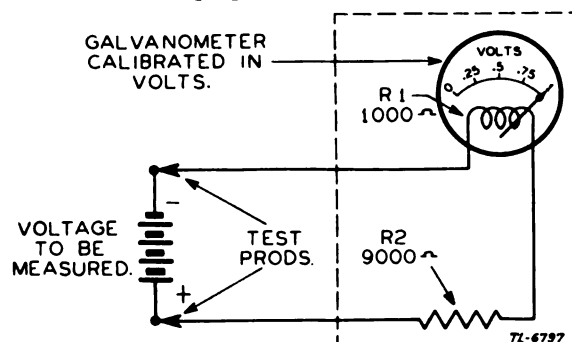

Figure 2. The galvanometer as a voltmeter.
(1) The commonly used milliammeters are most accurate at the top (maximum) portion of the scales. For greatest accuracy, take current readings at the top of the scale by using the lowest available meter range for any given measurement. However to avoid damage to the meter always start by using the highest range and work down to the lowest usable range; that is, the range which will place the needle indication on the upper portion of the calibrated scale.
(2) Since a d-c meter will measure current flowing in only one direction, it is important to observe polarity when connecting the meter in a circuit. Current flowing through the meter in the wrong direction will damage the meter movement.
a. General. (1) The voltage across a battery can be measured by a galvanometer arranged as a voltmeter (fig. 2). Voltmeters are used for measuring the electric pressure, or voltage, between two points in an electric circuit. While an ammeter is connected in series with the circuit in which current is being measured, a voltmeter is connected in parallel with (directly across) the voltage source. Because of its comparatively low resistance, the moving coil of the voltmeter cannot be connected directly across the voltage source, as it would ordinarily take an excessive current and be burnt out. Therefore, it is necessary to connect a high resistance in series with the coil.
(2) The galvanometer can then be connected across the voltage source in series with this resistance and used to measure voltage. By Ohm's law the current flowing through the meter is proportional to the voltage at its terminals. As explained previously, this current flows through the moving coil and develops a turning force proportional to the current intensity. Therefore, the voltage across the terminals of the voltmeter develops a turning force which moves the pointer attached to the moving coil across a scale calibrated in volts.
b. Multipliers. (1) Because of the low resistance of most meters only a very low voltage is required to cause full-scale deflection. The range of a voltmeter may be increased, however, by the use of additional resistances connected in series with the meter. These additional resistances are called multipliers. When the resistance of the meter circuit is increased by placing a resistor in series with it, the voltage necessary to cause full-scale deflection is increased proportionately.
(2) If a resistor equal in value to the meter resistance is placed in series with the meter across a battery, half as much current will flow, or twice the voltage will be required for full-scale deflection of the meter. If the meter is calibrated in units of current, and the values of the meter resistance R_1 and the multiplier resistance R_2 are known, the voltage across the battery may be calculated using Ohm's law. However, the calculations for such measurements may be eliminated entirely by calibrating the meter scale directly in volts and including the multiplier resistor R_2 as a component part of the meter.
(3) A range switch may be included with the meter to switch various fixed values of R_2 into the meter circuit, thereby permitting several voltage ranges to be used with one instrument. Usually one resistance is used and tapped at several points in order to provide several values of resistance. The values of R_2 are generally chosen in multiples of 10 so that the resistance of the meter movement will be a fraction, such as $\frac{1}{10}$, $\frac{1}{100}$, or $\frac{1}{1000}$ of the total value of resistance in the meter circuit. This permits the original voltage-calibrated scale to be used on all ranges of the meter.
(4) As an example, suppose the meter movement in figure 2 has a resistance of 1,000 ohms and the scale of the meter is calibrated from zero to 1 volt. It is desired to extend the range of the meter to measure from zero to 10 volts. The multiplier resistor R_2 must drop 9 volts, leaving 1 volt across the meter for full-scale deflection. By Ohm's law, the current through the meter with 1 volt across it is 1 milliampere. Since this same value of current must flow through R_2 , the resistance of R_2 may be figured by Ohm's law to be 9,000 ohms. Any voltage between zero and 10 volts may now be measured by multiplying the reading on the meter scale by 10. If it is desired to extend the range of the meter to read from zero to 100 volts, a multiplier resistance of 99,000 ohms must be placed in series with the meter movement. Then the voltage reading on the meter scale will be multiplied by 100 for the correct value of voltage being measured. These figures may be verified by using Ohm's law.
c. Sensitivity. (1) The d-c voltmeters used in Test Equipment RC-68(*) are rated at either